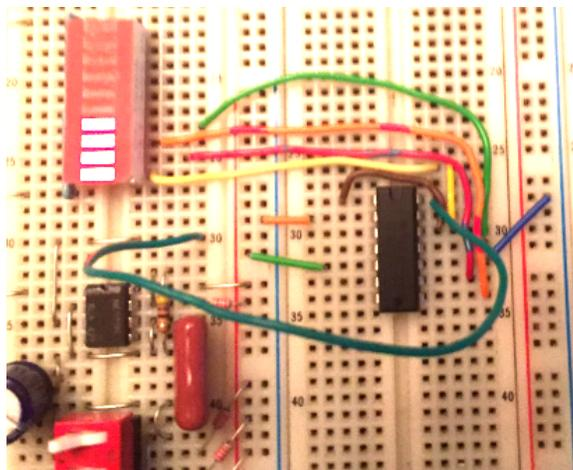

Figure 2.3. Counter circuit with clock input now connected to timer (row 30 on the breadboard).
Now connect the timer output to the counter's clock input at pin 14 (as shown in Figure 2.3). Run the clock at its slowest rate so you can see the LEDs flash on and off. (For the slowest rate, the capacitor select switch--lower left--should be flipped opposite to the way it is shown.) Again, the LEDs should go through a full 16-count sequence:  $0000 \rightarrow 0001 \rightarrow 0010 \rightarrow \dots \rightarrow 1110 \rightarrow 1111 \rightarrow 0000 \rightarrow \dots$  etc..
**2.3\*** Once you are satisfied that the counter is running correctly, switch the timer into its high range (flip the capacitor select switch back to the way it appears in Figure 2.3). The counter outputs should now be changing too fast to see their bit patterns on the LEDs which, as a result, appear to be on all the time. Instead, you will observe counter outputs using an oscilloscope. (See “Controlling the Oscilloscope Display” at the end of this experiment for information on using the Agilent DS01012A oscilloscope.)